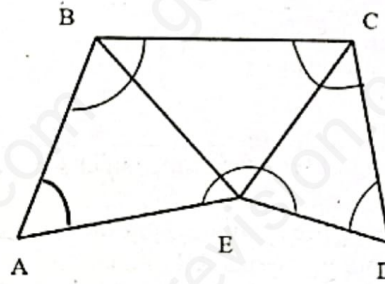

Figure 4
19. Identify the type of angles indicated in the polygonometric traverse bod Figure 4, at points A,B,C,D and E